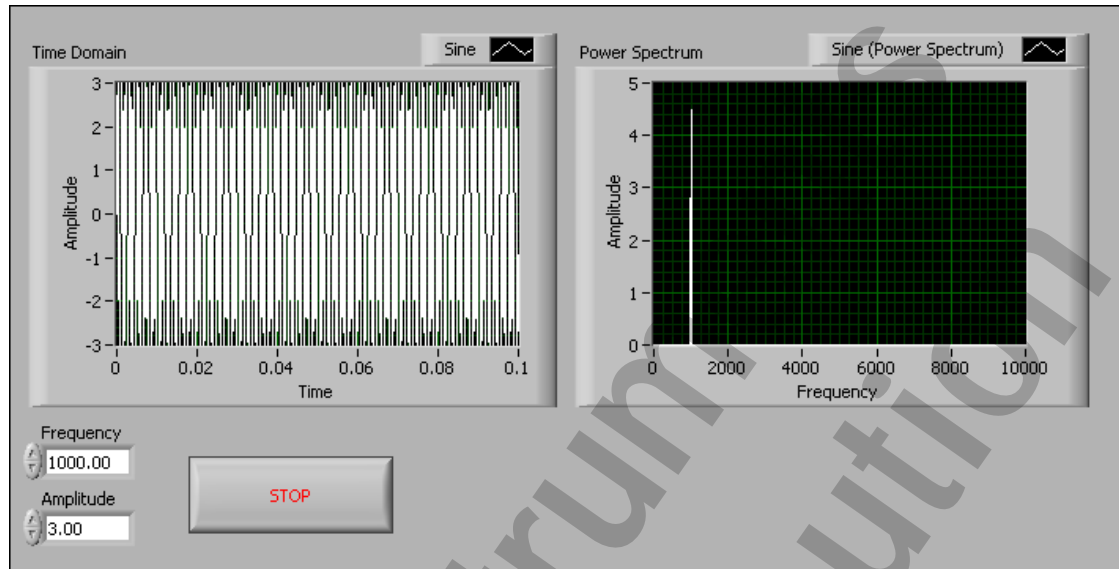

Figure A-4. Power Spectrum Express VI Front Panel
2. Arrange the front panel as shown in Figure A-4.